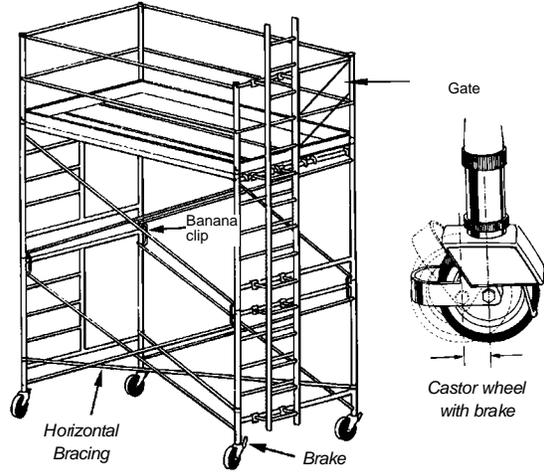

Figure 4.3 ROLLING SCAFFOLD
This is the most frequently used scaffold in construction. Historically it has been made of steel tubing, but aluminum is gaining popularity. The scaffold is manufactured in various configurations and spans. On some systems, ladder rungs are built into the end frames (Figure 4.1). These ladders are not suitable for tall scaffold towers unless rest platforms are installed at regular intervals and trapdoors are provided in the platforms. Other models are equipped with ladders that attach to the end frames (Figure 4.3). The ladder shown in Figure 4.3 is continuous and workers gain access via gates at the platform level. Again this ladder is not suitable for high scaffolds. Scaffolds in excess of 9 metres (30 feet) should have built-in stairs with rest platforms. Vertical ladders can reach up to 9 metres, but above 2.2 metres (7 feet) they require a safety cage.
- **Castor Type.** This type of scaffold is best suited for work on smooth floors and is typically used inside buildings. All castors should be equipped with braking devices (Figure 4.3). This kind of scaffold should be erected so that its height-to-width ratio is no greater than 3 to 1. This limits the height of platforms with standard outrigger stabilizers and single span towers to approximately 9 metres (30 feet).